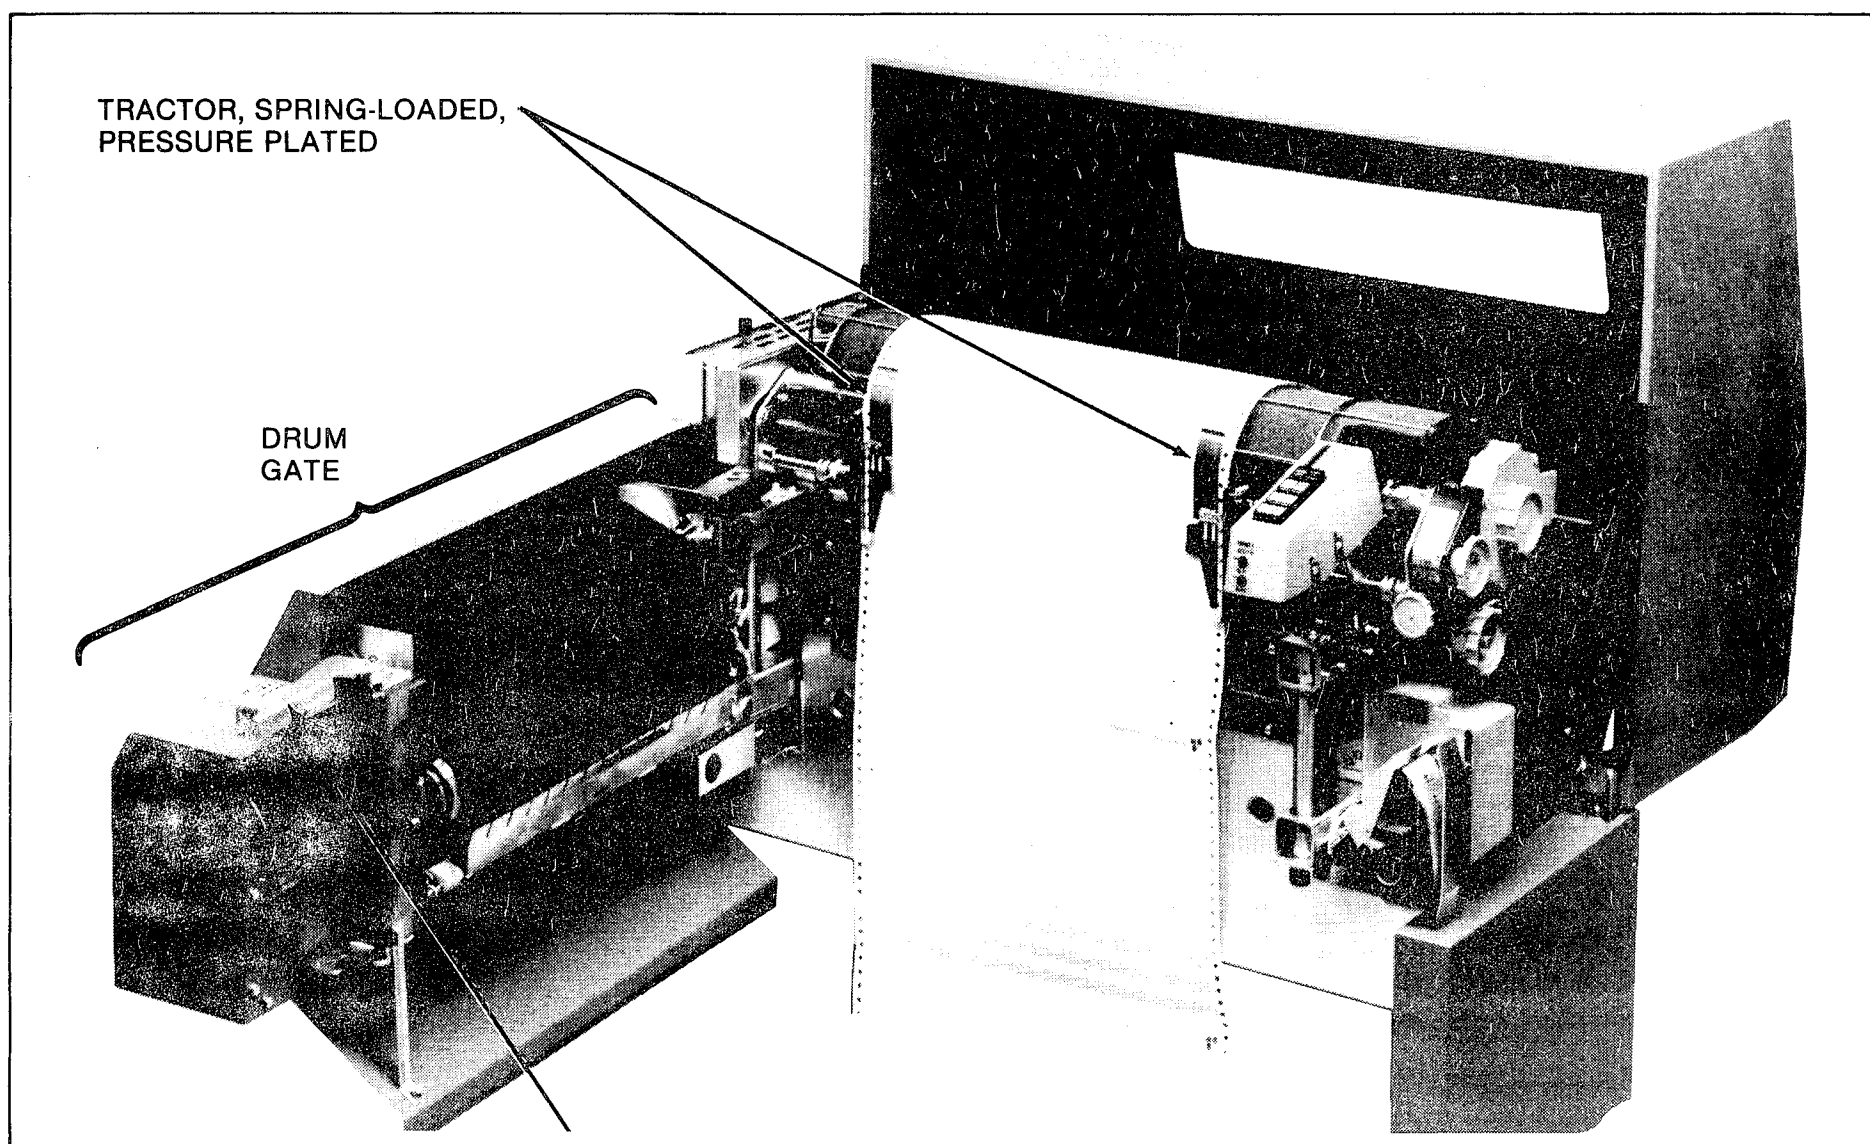

Figure 3. Paper Loading
- Lift the sound cover. Pull drum gate latch forward and swing drum gate fully open (Figure 3).